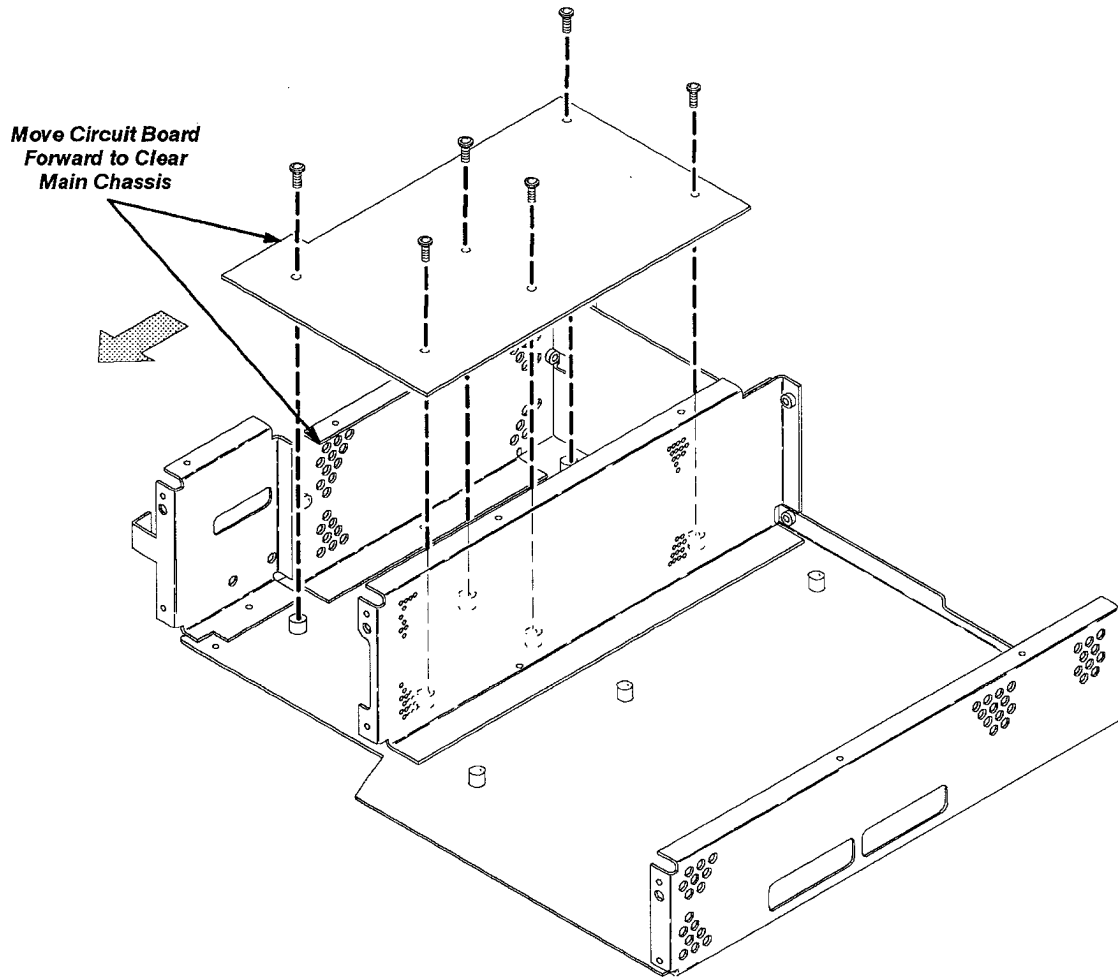

Figure 6-19: Display-Driver Board Removal
5. *Remove the Display-Supply board:* Use Figure 6-19 as a guide.